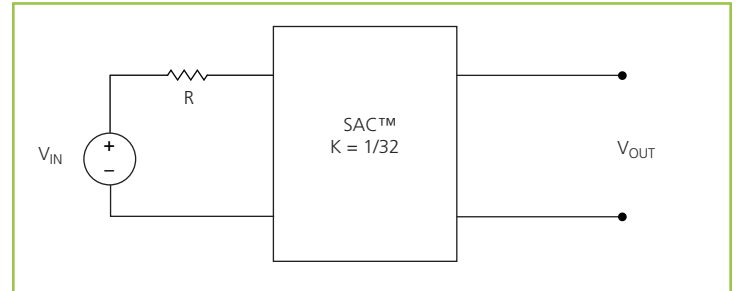

Figure 18 — K = 1/32 Sine Amplitude Converter™ with series input resistor
ROUT = 0 Ω and IQ = 0 A, Eq. (3) now becomes Eq. (1) and is essentially load independent. A resistor R is now placed in series with VIN as shown in Figure 18.
Assuming that $R = 1 \Omega$, the effective R as seen from the secondary side is $0.98 \text{ m}\Omega$, with $K = 1/32$ as shown in Figure 18.